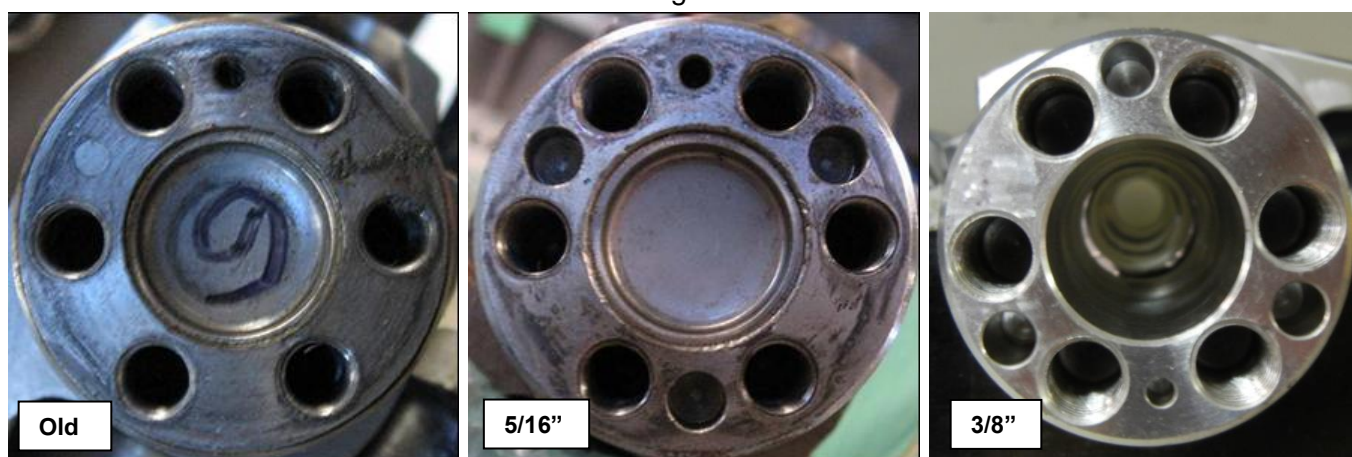

Figure 64 – Crankshaft End Detail (Dowel Holes)
- Engines with the "starfish" flywheel are retained with 6 x 5/16" x 1" or 6 x 3/8" x 1" UNF cap screws. The flywheel end of the crankshaft should look like the "5/16"" or "3/8"" photos in Figure 64.